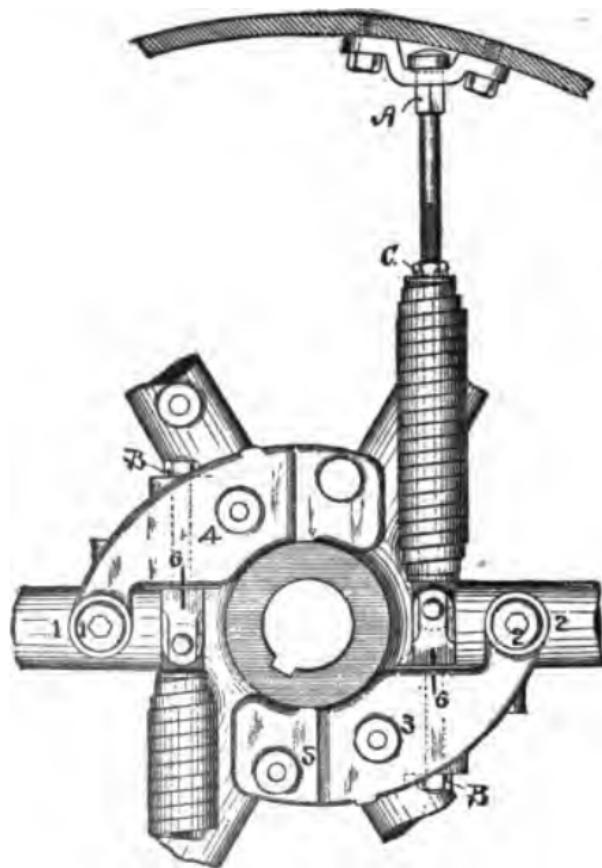

FIG. 90. ARMINGTON & SIMS GOVERNOR FOR LARGE ENGINES.
Put in the springs, and screw down the nuts marked *A* in Fig. 90 equally, that the tension of springs may be the same, and upon starting the engine adjust these nuts (both alike) until the engine runs at the speed to which the regulator was adjusted at the shop (which will be found marked on the outside end of hub of the regulator wheel). Put on the eccentric rod as it is received—don't move the knuckle joint; screw down the cap solid. Put on the driving wheel and drive the spline; on the larger sizes (12 x 12 and above) the hub of wheel serves as a collar for the shaft and is to be put on to a running fit against the end of box.
A. By adding to the weights if a decreased speed is wanted or lessening them if for a quicker speed. Do not alter the tension of the springs by moving the nuts *A*. The smaller size engines have the springs arranged as shown in Figs. 88 and 89, but the larger sizes are arranged as in Fig. 90.